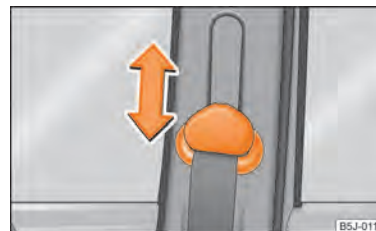

Fig. 100 Front seat: Seat belt height adjuster
- To adjust the belt height press the height adjuster and move it up or down ⇒ fig. 100.